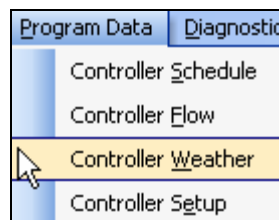

Figure 16.4.1D
1. In the toolbar at the top of the screen click on **Program Data** then scroll down to the words **Controller Weather** and click on it (Figure 16.4.1D).